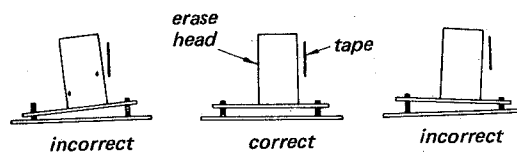

Fig. 3-4. Erase head zenith adjustment
- 1) Adjust the two zenith adjustment screws, to obtain even contact between tape and head. See Fig. 3-4.
- 1) Adjust the zenith adjustment screws to obtain the even contact between the tape and the head as shown in Fig. 3-4.